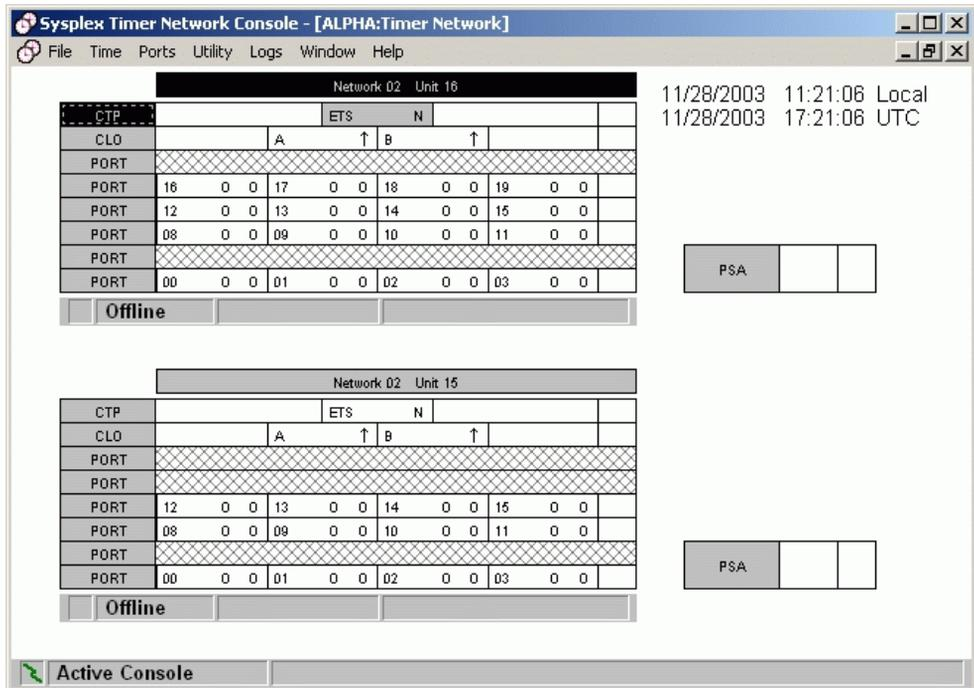

Figure 36 Sysplex Timer Network Console - Timer Network Window
- a. **Timer Network Name** - Enter a name from one to eight characters that uniquely identifies the sysplex timer network to the ESCON console. A network consists of a single timer in basic or expanded basic (EB) configuration, or two timers in expanded availability (EA) configuration.
6. Click **OK**. The *Sysplex Timer Network Console - Timer Network* window displays (Figure 36).